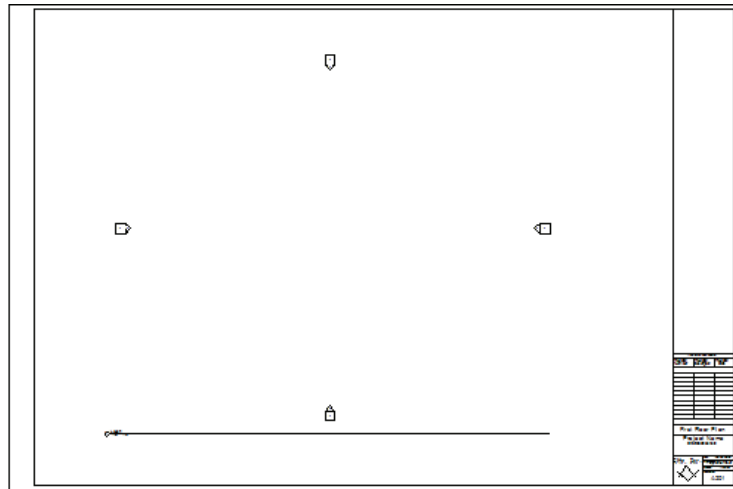

Figure 1–53
- Open this sheet view. Drag the **Level 1** floor plan view onto the sheet, as shown in Figure 1–53.